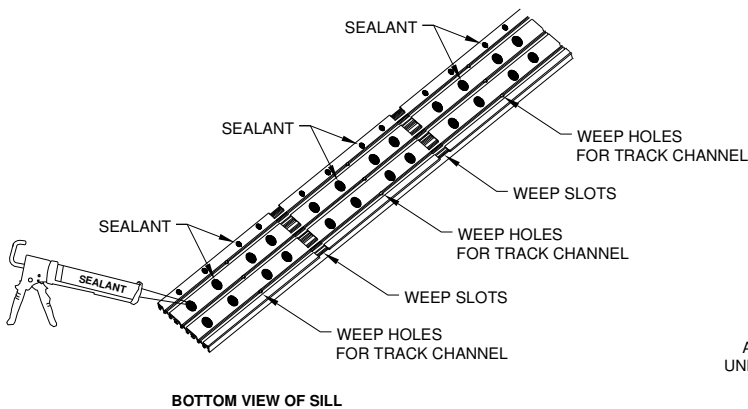
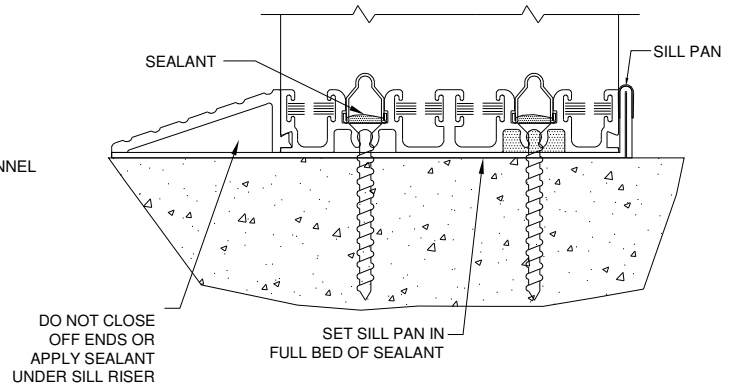

Figure 19:
Figure 20:
- After installing the anchor, apply sealant over the anchor screw head (Figure 20).
- Attach sill to the sillpan with a compatible sealant (Figure 19). Do not place sealant in or next to weep slots or weep holes cut (Figure 20). Sealant that blocks weep slots will prevent sill from weeping.